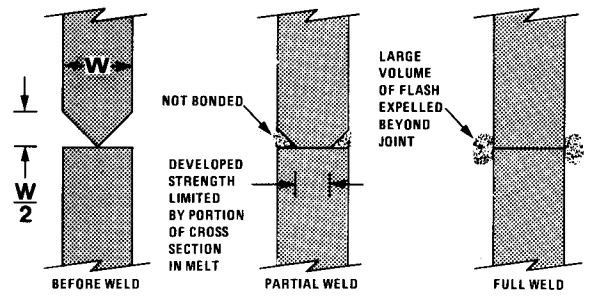

figure 14
**TO BE AVOIDED:** A typical mistake with energy director design is beveling one joint face at 45° angles. Figure 14 shows the result if this practice is followed.